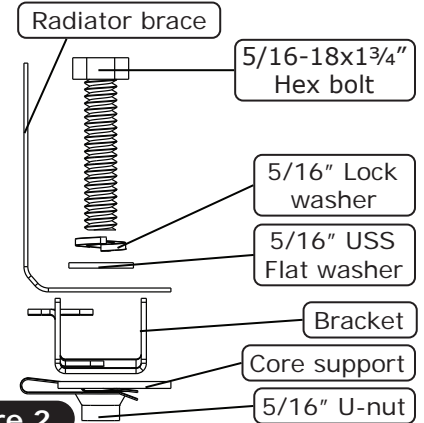

Figure 2
7. Locate (4) 5/16-18 x 1 3/4" hex bolts, (4) 5/16" lock washers and (4) 5/16" USS flat washers. Gather one of each item and assemble. Then, install the assembled fasteners through the radiator, condenser bracket, and U-nut (See Photo 6 and Figure 2, below). Leave bolts loosely fitted. **NOTE: Leaving bolts loosely will allow brackets to shift left and right to ease condenser installation.**
9. Place the condenser against both brackets, then secure it with (4) 10-24 nuts with star washers (See Photo 9, below). **Disclaimer: Do not over tighten! NOTE: The Feed (#8 Fitting Port) and Exit (#6 Fitting Port) need to be correctly orientated.**